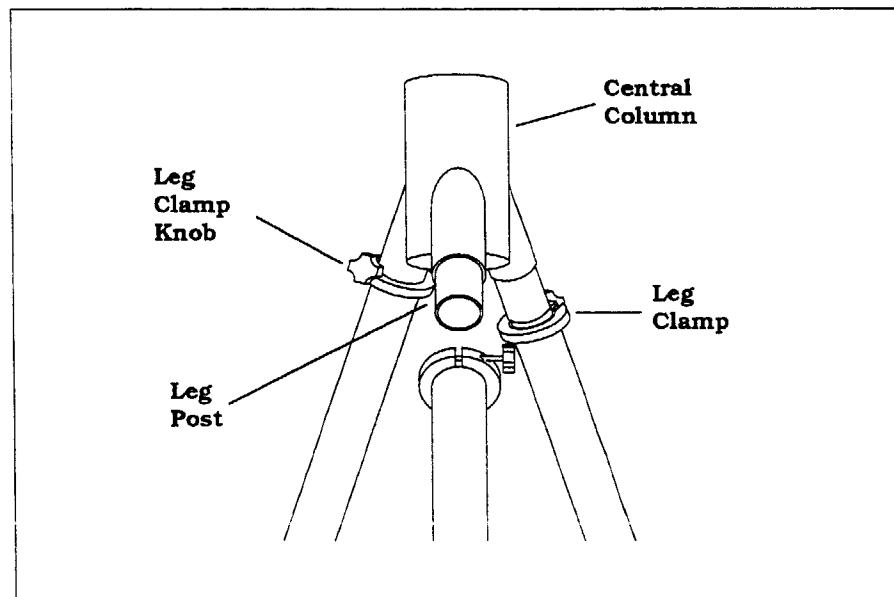

Figure 2-3
5. Slide the legs — one at a time — onto the leg posts (see figure 2-3).